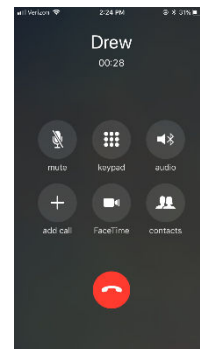

Figure 46
3. Once the phone begins to ring, the source display will indicate that the Processors are the active audio source (Figure 46).